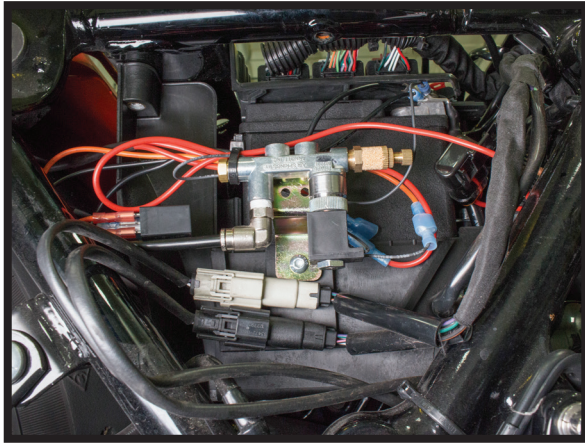

FIGURE 9
8. MOUNT THE AIR MANIFOLD UNDER THE RIGHT SIDE BATTERY COVER. THE IMAGES BELOW SHOW SOME OPTIONS WITH THE INCLUDED HARDWARE. TRIM THE PUMP HOSE AND INSERT IT INTO THE PUSH-TO-CONNECT FITTING ON THE AIR MANIFOLD. WIRE THE PUMP AND RELAY TO THE MOTORCYCLE BATTERY FOLLOWING THE WIRING DIAGRAM IN THE BACK OF THIS MANUAL. (FIGURES 9, 10)